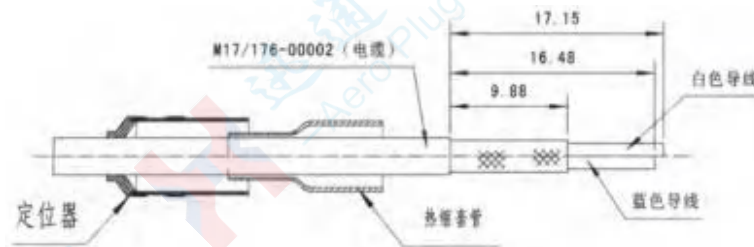

图39
- As shown in Figure 39, slide the heat shrinkable tube and locator onto the cable jacket (starting from the end with the smaller diameter).